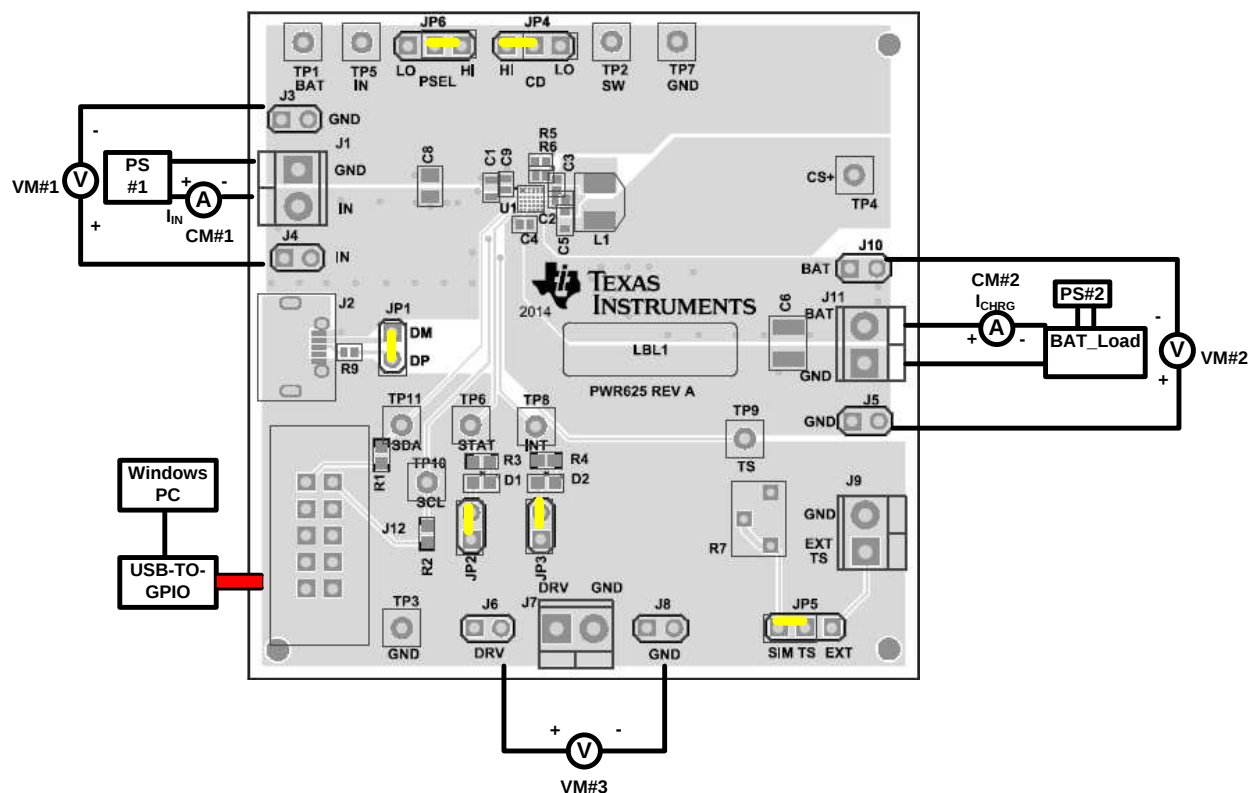

Figure 4. Recommended Initial Test Setup for bq24187EVM-625
10. After the preceding steps have been performed, the test setup for bq24187EVM-625 is configured as is shown in Figure 4